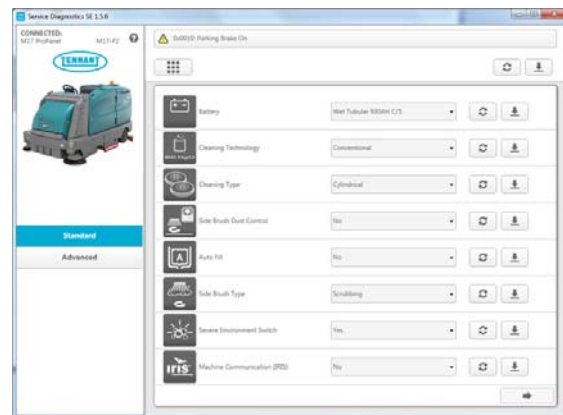

FIG. 16
6. Carefully select the correct installed options on the machine (Fig. 16). This may require visually inspecting the machine to confirm all installed options. Press the arrow button to advance to next screen.